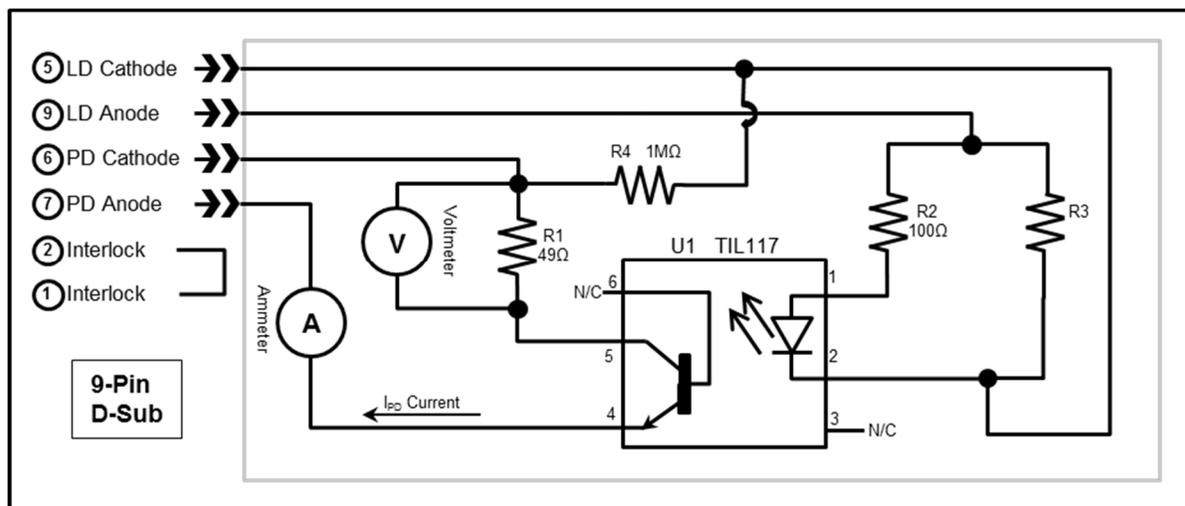

Figure 6.1 I_{pn} Calibration Circuit
It will be necessary to connect various loads and circuits to the outputs of each current source for the calibration procedure. A schematic is shown in Figure 6.1 for the photodiode calibration circuit with the required components listed in the table below. Devices required for other calibration loads are also listed in the table below.
PD Monitor Calibration (See Schematic in Figure 6.1)
- a. With the LASER output off, connect a calibrated ammeter to the PD Anode output of the Laser Current Source output connector (9 pin on rear panel), and connect the circuit of Figure 6.1 to the LASER and PD outputs with the correct load resistor for the Current Source model under calibration (See Table 6.2).
Note: If a precision ammeter is not available, use a zero-Ohm jumper in place of the ammeter. Then, place a calibrated DMM (with 0.1 mV resolution) to measure the voltage across the resistor, R1, as shown in Figure 6.1. Calculate the current in the following steps by using Ohm's Law: